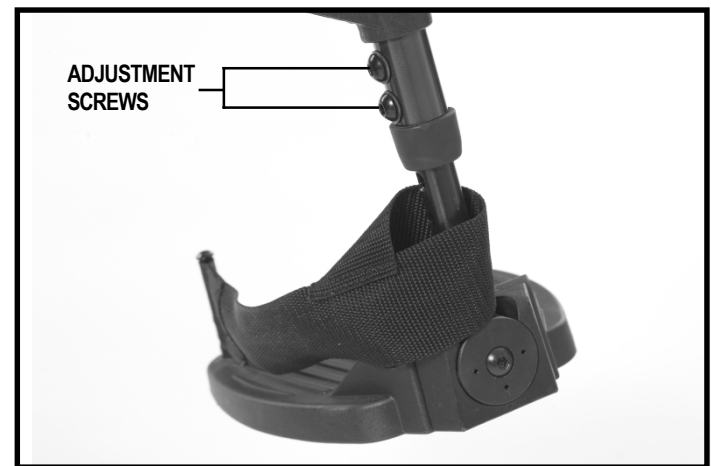

Figure 25. Leg Rest Height Adjustment
1. Loosen the leg rest adjustment screws. See figure 25.